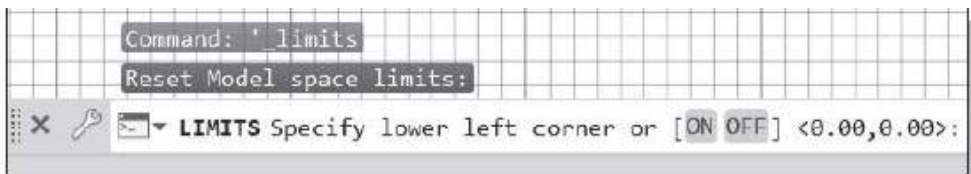

Figure 9
1. In the Menu Bar select: **[Format] > [Drawing Limits]** (see figure 9)